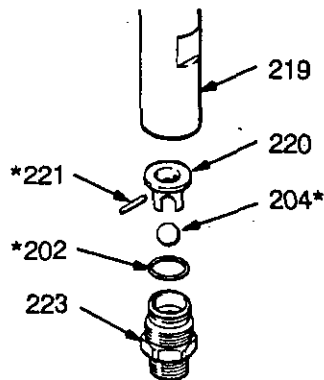

Fig 16-1
1. Remove the intake valve (223), o-ring (202), ball guide (220), stop pin (221) and ball (204). Clean the parts. See Fig 16-1.